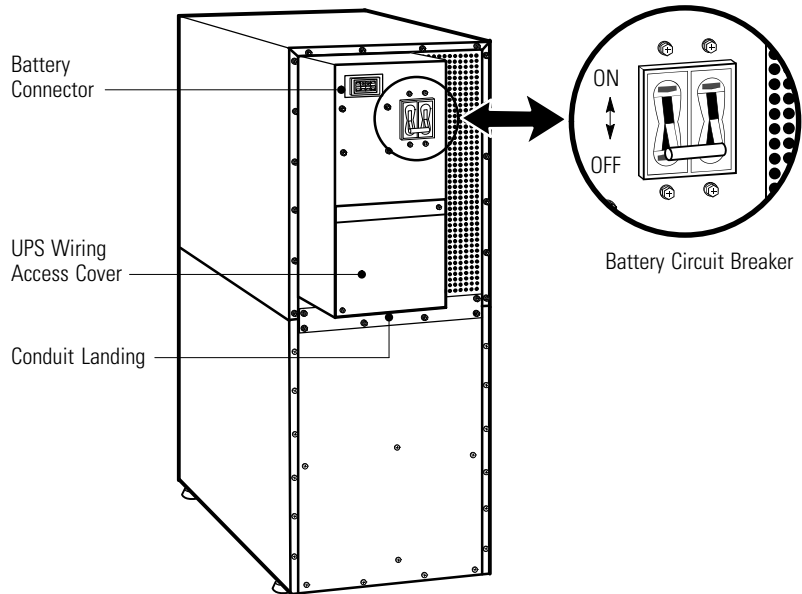

Figure 9. UPS Rear View (2-High Shown)
- 10.** Verify that each UPS battery circuit breaker is in the OFF position (see Figure 9).
- 11.** From each UPS, remove the UPS wiring access cover and retain (see Figure 9).